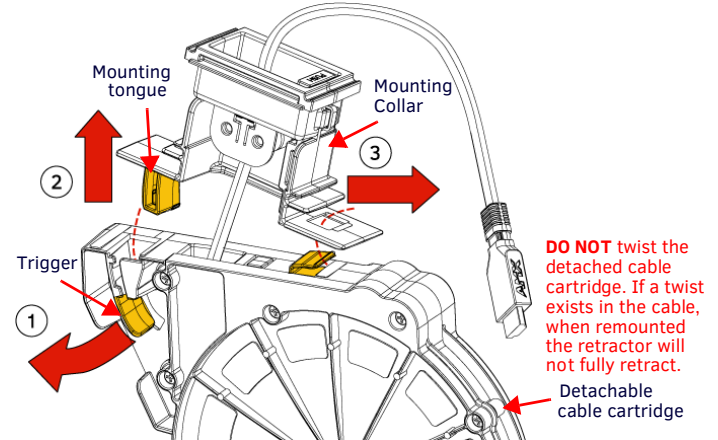

FIG. 4 HPX-AV102A-DP-R MOUNTING COLLAR REMOVAL
6. Pull the cable cartridge trigger (FIG. 4) to release the mounting collar tongue.
4. Push the cable cartridge trigger up onto the mounting collar tongue until it latches (opposite of FIG. 4).
1. Detach the cable cartridge from the mounting collar using the trigger and slide method described in FIG. 4.